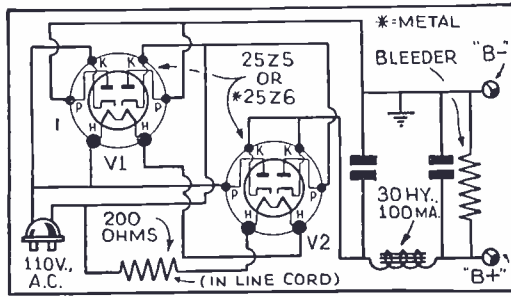

Fig. 2. A full-wave power supply system for small sets, speaker field supply and other uses.
**Full-Wave Rectification Without A Power Transformer.** Here is a full-wave rectifier for supplying "B" current to A.C.-D.C. sets, energizing speaker fields, and for supplying high voltage to test apparatus, etc. See Fig. 2.